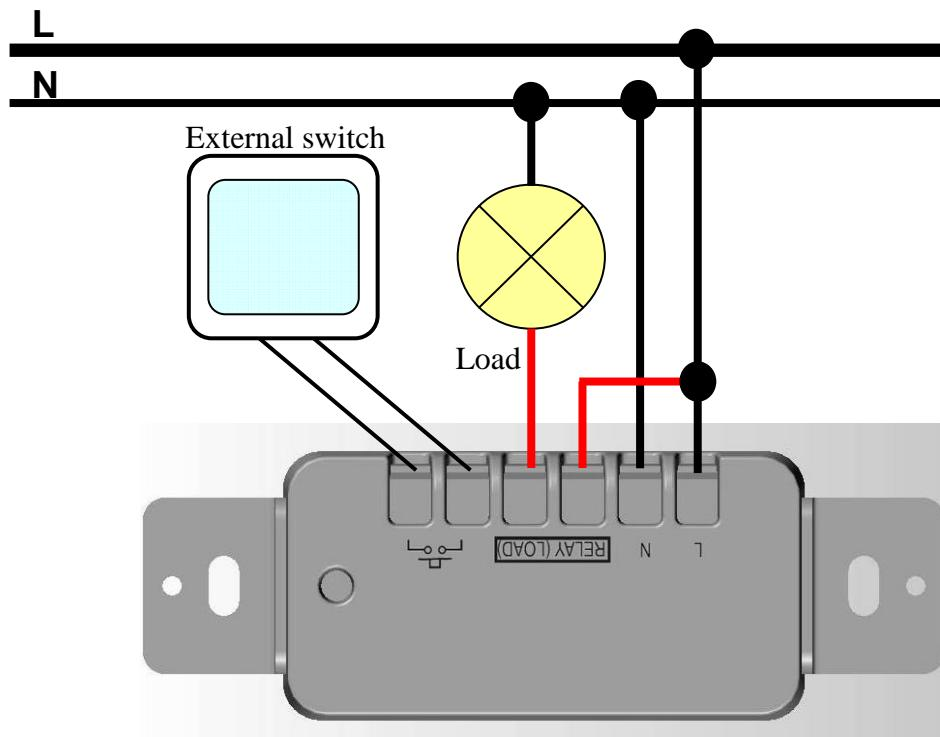

Figure 1
Step 2 **Identifying your wiring application:** refer to figure 1
Step 3 **Connecting wires:** refer to figure 1 and connect the wires with correct symbols. Use at less 75°C copper wire only and the stripped wire end's length must be 9mm. The tightening torque must be 3.5lb-in. (Make sure all wires are firmly fixed at all terminals)
(Important: The relay terminals MUST be connected to L and Load as Figure 1)